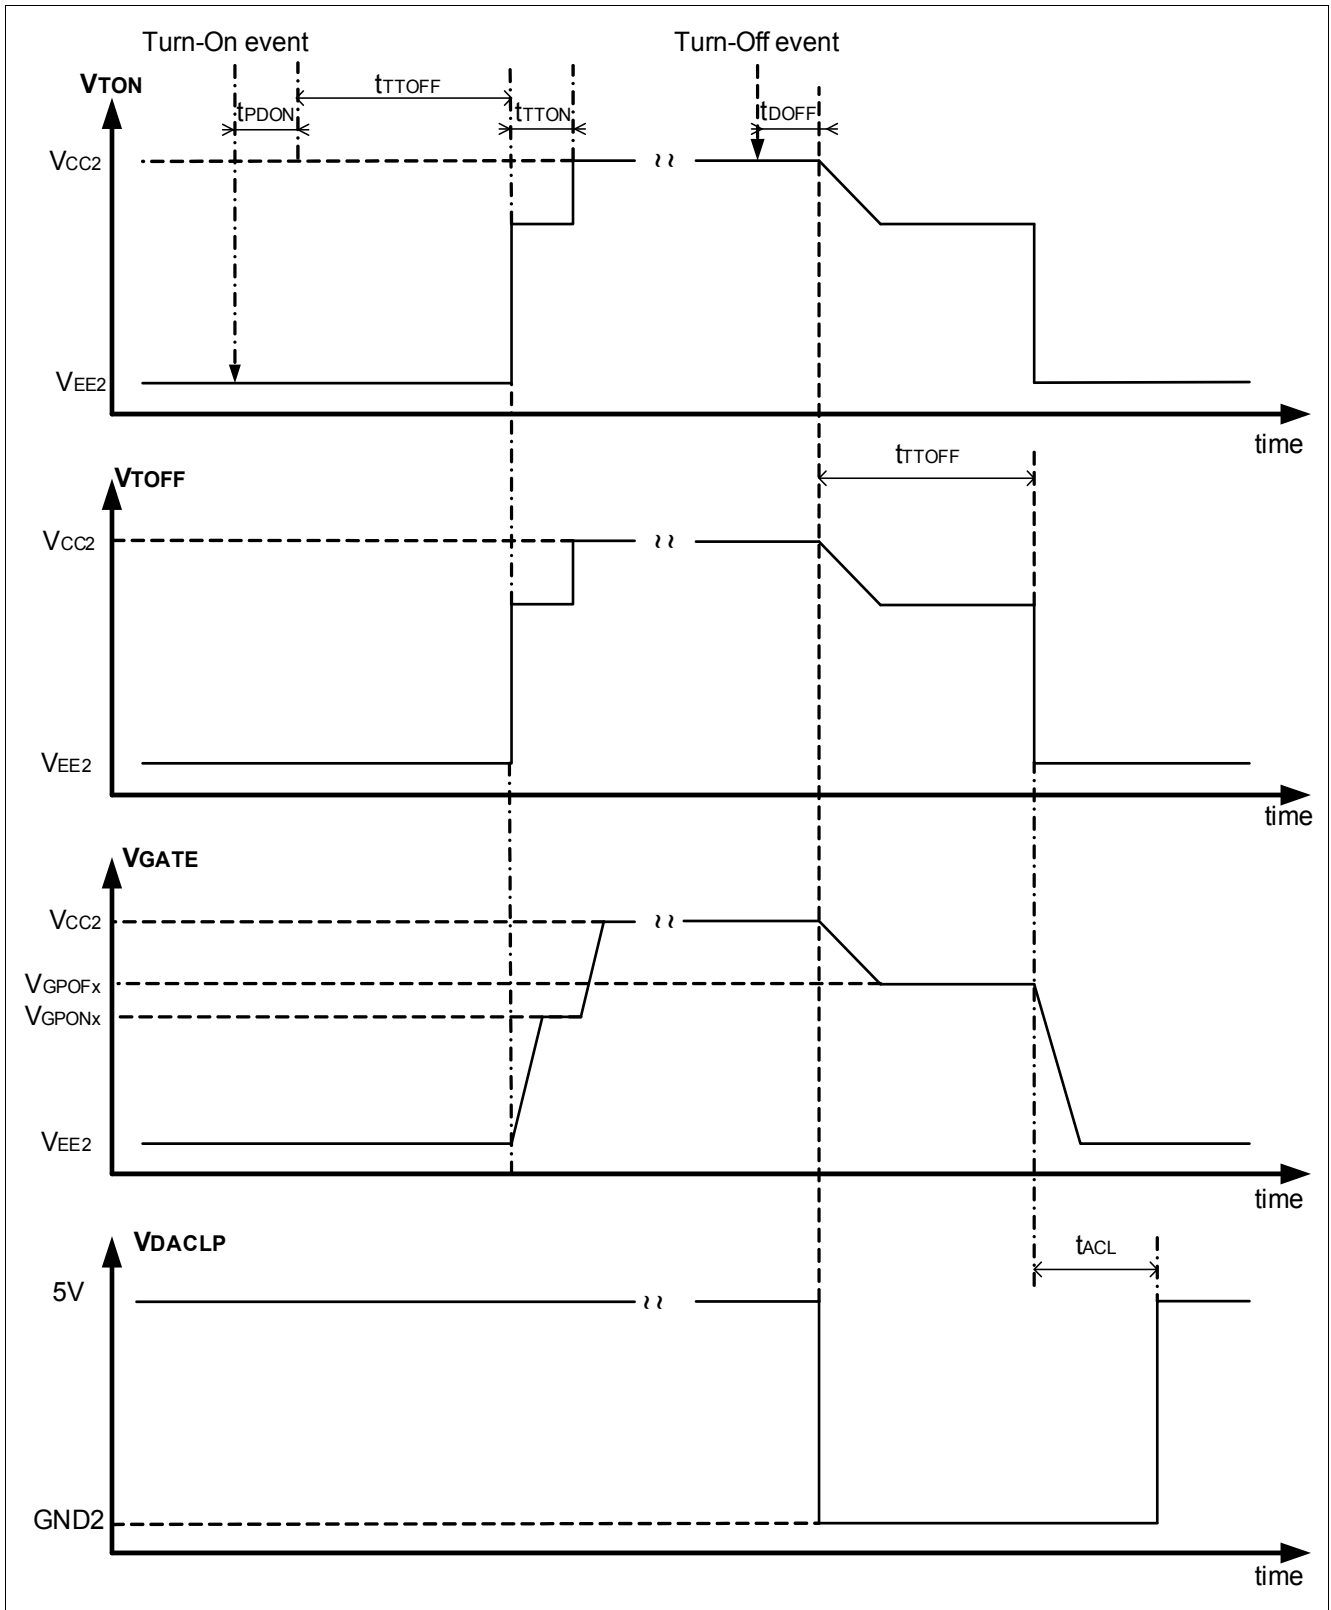

Figure 2-16 Idealized Switching Sequence
**Figure 2-16** shows an idealized switching sequence. When a valid turn-on command is detected, a certain propagation time  $t_{PDON}$  is needed by the logic to transfer the PWM command to the secondary side. At this point the TTOFF delay time  $t_{TTOFF}$  defined by bit field **SRTTOF.RTVAL** is added before the turn-on command is executed. Signal **TON** is then activated, while signal **TOFF** is deactivated.